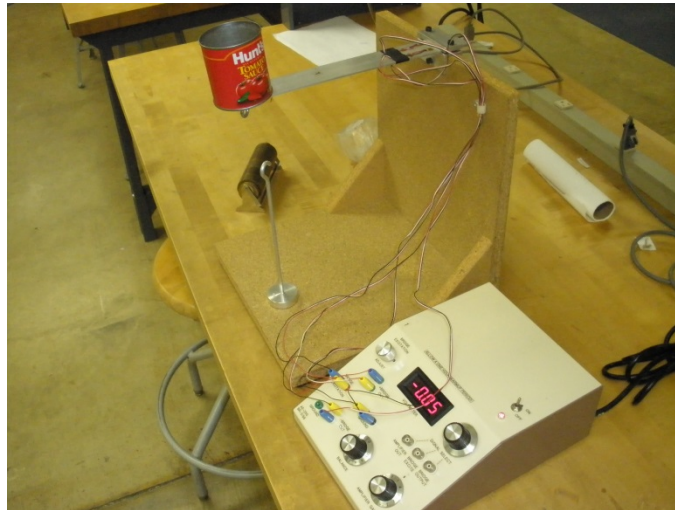

Figure 1 - Cantilever beam and Wheatstone bridge apparatus
2. The cantilever apparatus is shown in Figure 1. It consists of a cantilever beam affixed with strain gages, an amplifier, and an integrated voltmeter that reads the output voltage from the bridge. The bridge has already been configured as a full bridge in deflection mode. To set the input voltage to the Wheatstone bridge, set the “Signal Select” button to “Bridge Excite”. The red LED display should indicate now the bridge excitation voltage. Set it to 5 V using the turning knob in the upper left corner. To read the bridge output voltage, set the “Signal Select” button to “Amplifier Out”. The LED display now shows the output bridge voltage, which has been amplified by an operational amplifier that is inside the voltmeter box.